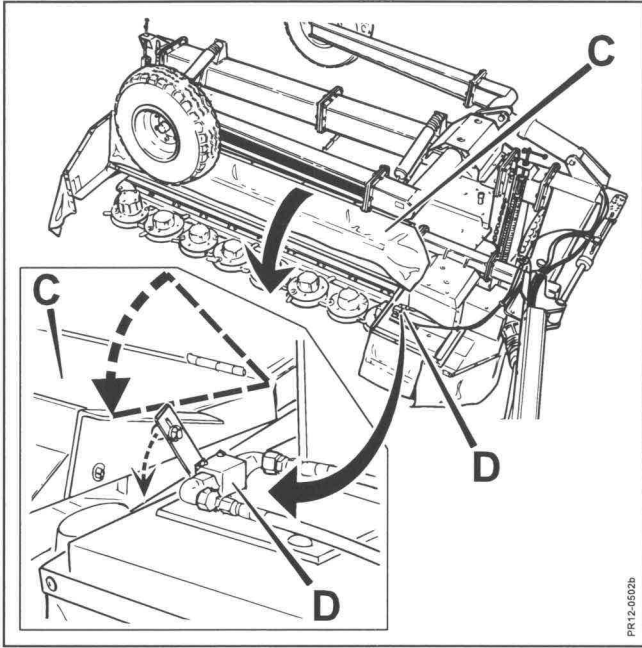

Fig. 3-7
- Fig. 3-7 5) FRONT SHIELDING IS CLOSED (locking the transport wheel).**